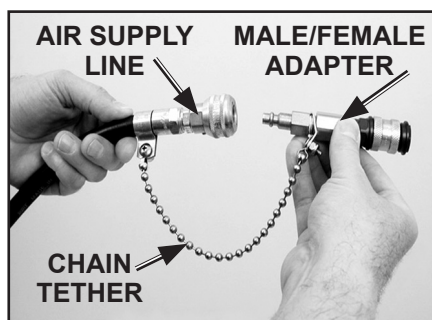

FIGURE 4
9. Insert the male end of each Male/Female adapter P/N 200112-SERIES into the female fitting on an air supply line. Check that there is no evidence of flow from the end of the adapter or any sign of leakage from the assembly. See FIGURE 4. Minor leakage, not to exceed one bubble in five seconds, is acceptable. If greater flow is detected, do not use the apparatus. Remove it from service and tag for repair.